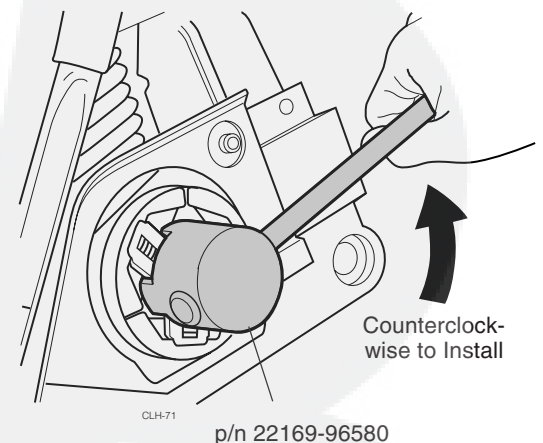

Figure 6.26 Tighten the Clutch Hub on the Crankshaft
STEP 4. In the reverse order of removal, use clutch tool p/n 22169-96580 to firmly tighten the clutch hub on the engine crankshaft (Figure 6.26).